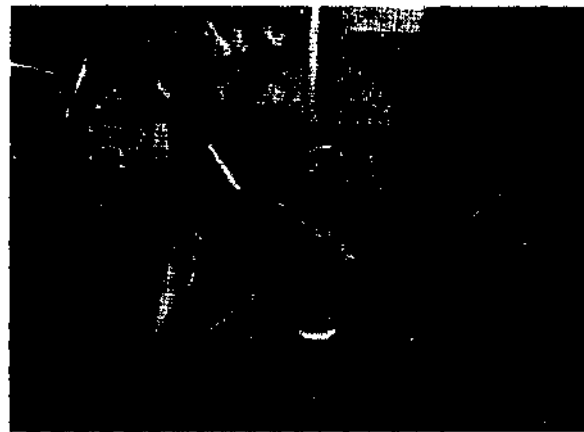

Figure 712. Connecting coolant heater control box.
- (3) Route control box end of harness to right rear side of battery compartment, over top of frame side rail into engine compartment and through 1 made firewall (end of single very long lead is to remain in engine compartment).
- (4) Install grommet 7951712 around harness and lead in firewall.
- (5) Install shell 8338566 on very long lead from control box end of harness and attach to Y-connector (adapter) at personnel heater duct (See schematic, par. 527).
- (6) Connect coolant heater control box lead (from box, not harness) to one arm of Y-connector (adapter) under steering column within cab (fig. 712).